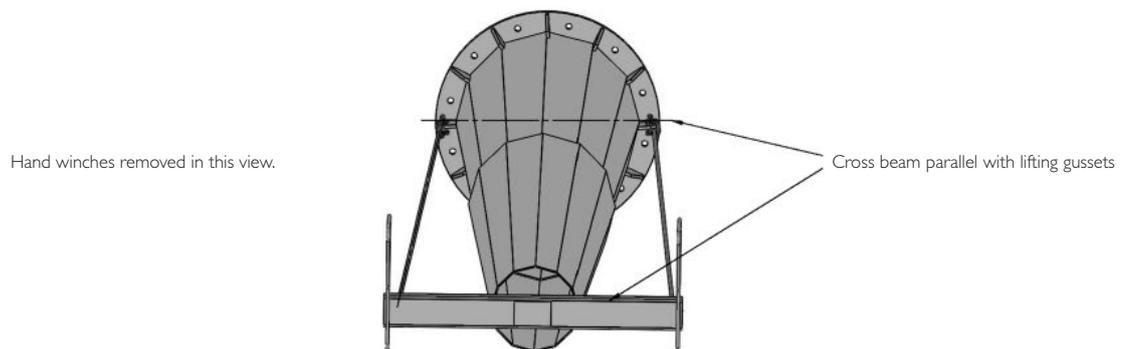

Figure 4.
- 3.13 Raise up the cross beam as necessary, so that the cross beam is on the pole centre line. When viewed from the top end it is important that the cross beam at the top end is parallel with the plane of the two winching lugs at the base on to which the hand winches have been attached (refer figure 4). If welded winching lugs have been provided on the upper sections, these may be used in place of the cross beam.